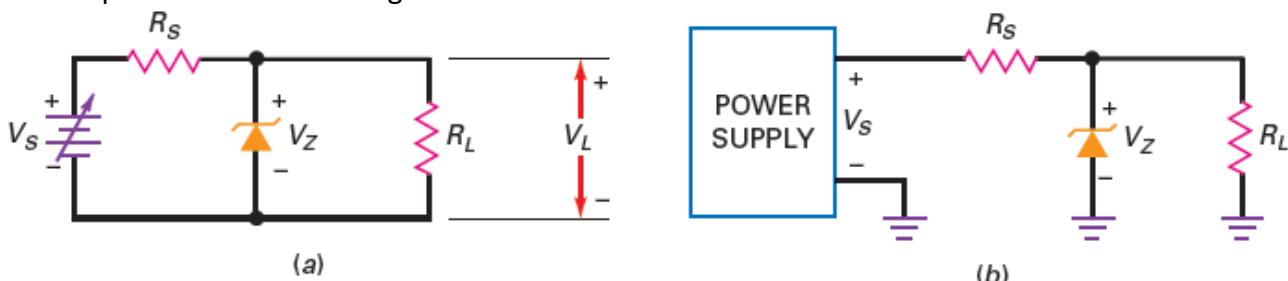

Figure-5 Loaded Zener regulator. (a) Basic circuit; (b) practical circuit
- How can you tell whether the Zener diode of Figure-5 is operating in the breakdown region? Because of the voltage divider, the Thevenin voltage facing the diode is:
- Unless otherwise indicated, in all subsequent discussions we assume that the Zener diode is operating in the breakdown region. In Figure-5, the current through the series resistor is given by: